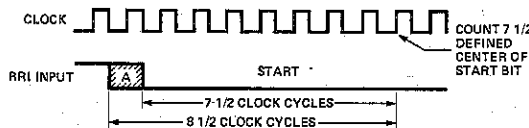

FIGURE 9. Start Bit Timing
The receiver uses a 16X clock for timing (see Figure 9.) The start bit (A) could have occurred as much as one clock cycle before it was detected, as indicated by the shaded portion. The center of the start bit is defined as clock count 7 1/2. If the receiver clock is a symmetrical square wave, the center of the start bit will be located within  $\pm 1/2$  clock cycle,  $\pm 1/32$  bit or  $\pm 3.125\%$ . The receiver begins searching for the next start bit at the center of the first stop bit.